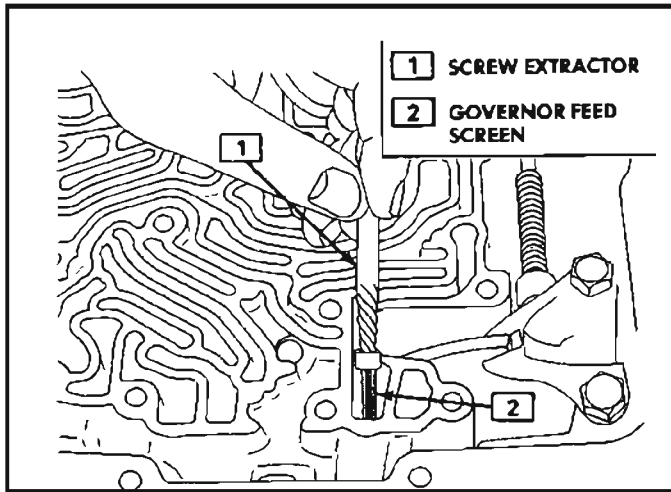

Figure 25 Governor Feed Screen Removal
23. Remove governor screen from case. Inspect for damage. Clean or replace as necessary. See Figure 25.